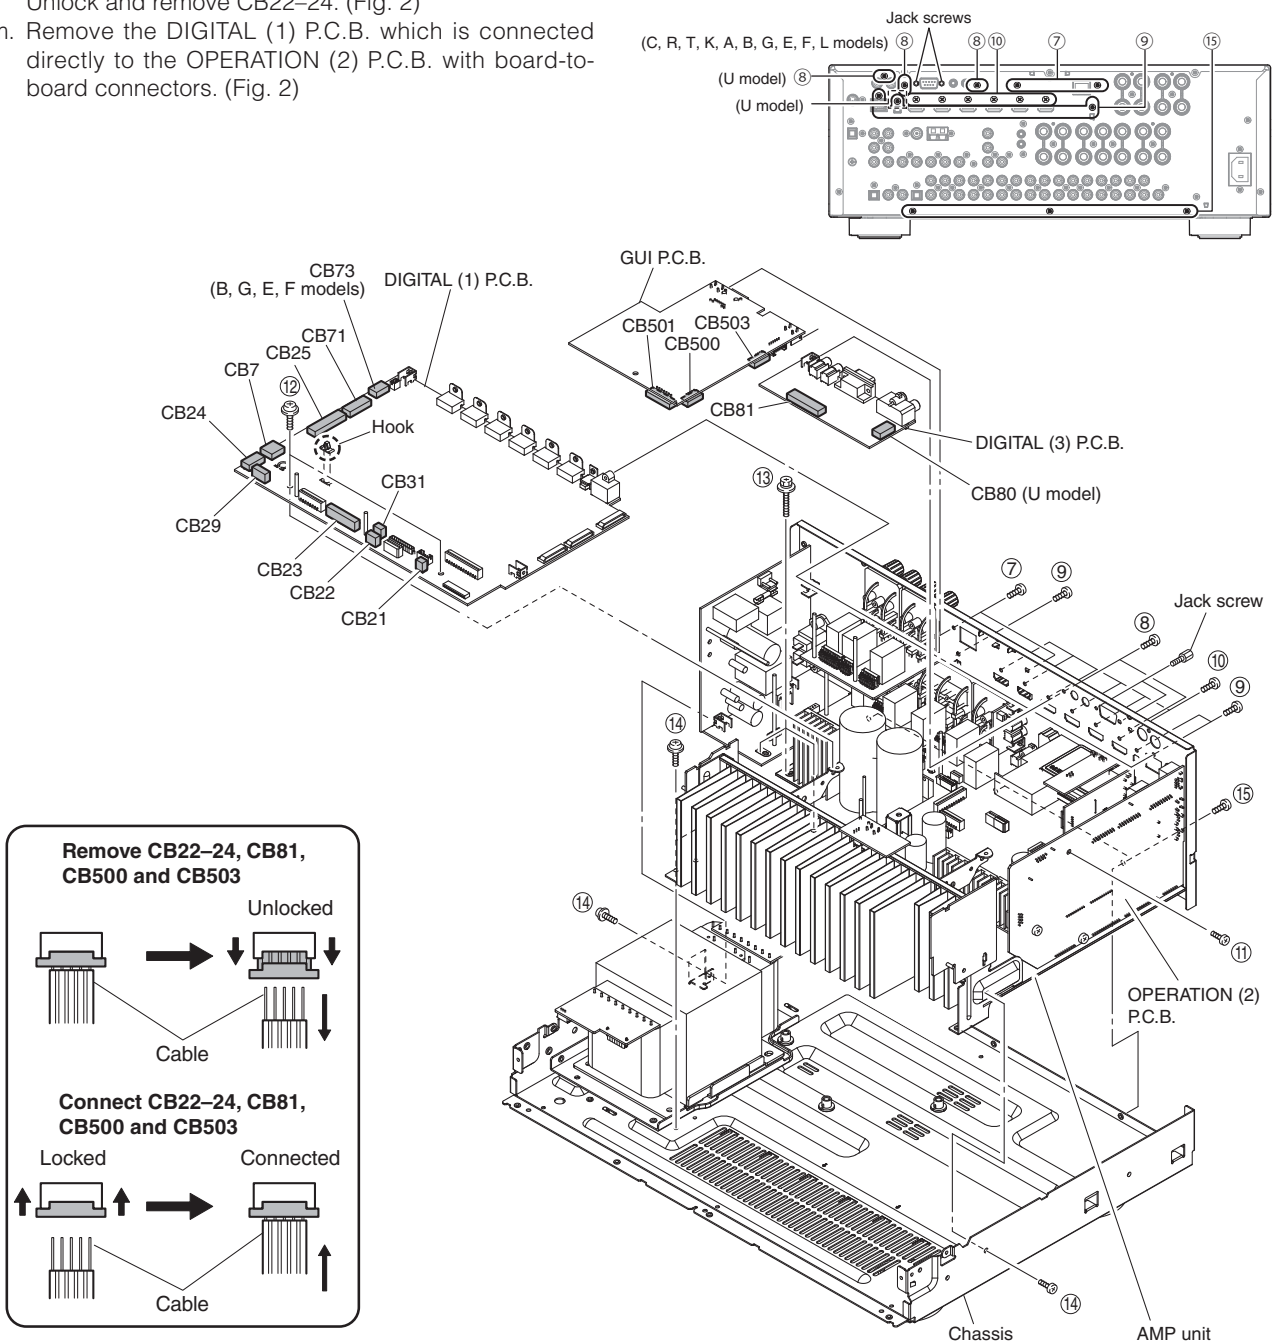

Fig. 2
3. Removal of GUI, DIGITAL (1) and (3) P.C.B.s
- a. Remove 2 screws (7). (Fig. 2)
- b. Remove CB501. (Fig. 2)
- c. Unlock and remove CB500 and CB503. (Fig. 2)
- d. Release hook, and remove the GUI P.C.B.. (Fig. 2)
- e. Remove 2 screws (8) and 2 jack screws. (Fig. 2)
- f. Remove CB80 (U model). (Fig. 2)
- g. Unlock and remove CB81. (Fig. 2)
- h. Remove the DIGITAL (3) P.C.B.. (Fig. 2)
- i. Remove 3 screws (U model) / 2 screws (C, R, T, K, A, B, G, E, F, L models) (9) and 6 screws (10). (Fig. 2)
- j. Remove screw (11) and 2 screws (12). (Fig. 2)
- k. Remove CB7, CB21, CB25, CB29, CB31, CB71 and CB73 (B, G, E, F models). (Fig. 2)
- l. Unlock and remove CB22–24. (Fig. 2)
- m. Remove the DIGITAL (1) P.C.B. which is connected directly to the OPERATION (2) P.C.B. with board-to-board connectors. (Fig. 2)
- a. Remove 3 screws (13) and 4 screws (14). (Fig. 2)
- b. Remove 3 screws (15). (Fig. 2)
- c. Remove the amp unit. (Fig. 2)